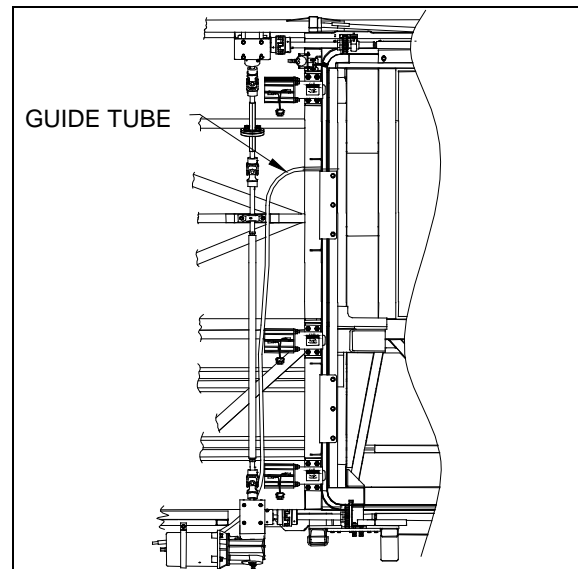
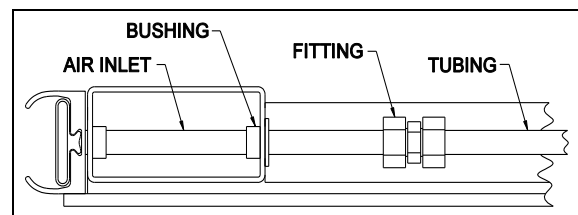

FIGURE 31 : FRONT SLIDE-OUT INFLATABLE SEAL AIR INLET
FIGURE 32 : REAR SLIDE-OUT INFLATABLE SEAL AIR INLET
The front slide-out inflatable seal air inlet is located in the third baggage compartment on the driver side close to the front slide-out electric motor (figure 31). The rear slide-out inflatable seal air inlet is located on the structure post facing the rear of the vehicle (figure 32).
2. Unplug the tubing from the inflatable seal air inlet (figure 31 and figure 32). Keep the bushing.
9. Replace the bushing and plug the pneumatic tubing on the inflatable seal air inlet (figure 31 and figure 32).